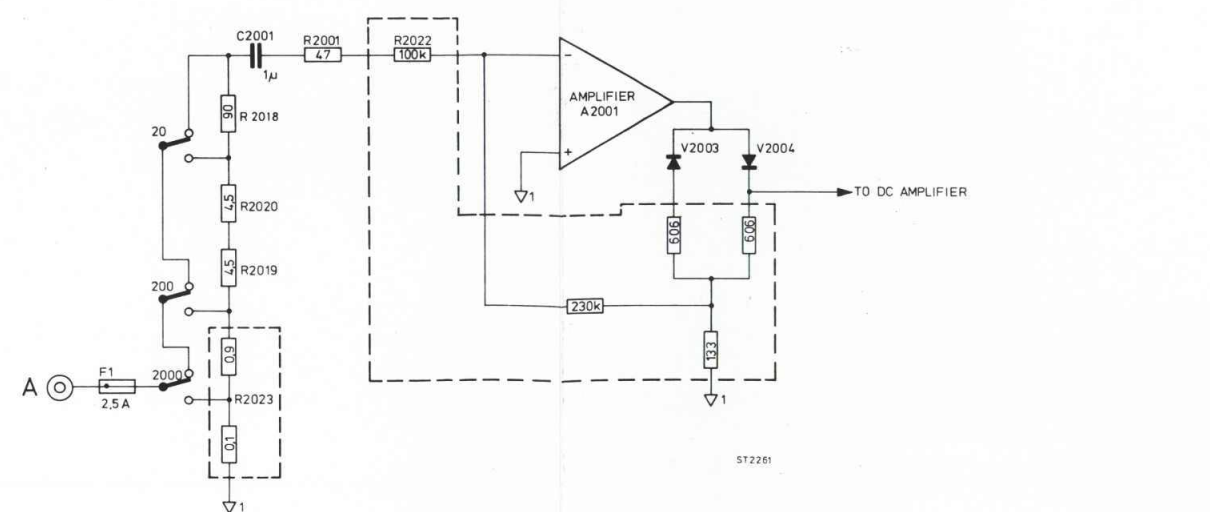

Fig. 19. AC-current measurements
7.2.4. A.C. current measurements (Fig. 19)